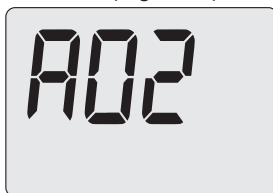

Fig. 8.20
- Press 13 and hold until the LCD display shows the code **A02**, indicating entry into “parameter A02” (Fig. 8.20).
- To return to the parameter list **without activating** the function (Fig. 8.20), press keys 13 or 14.